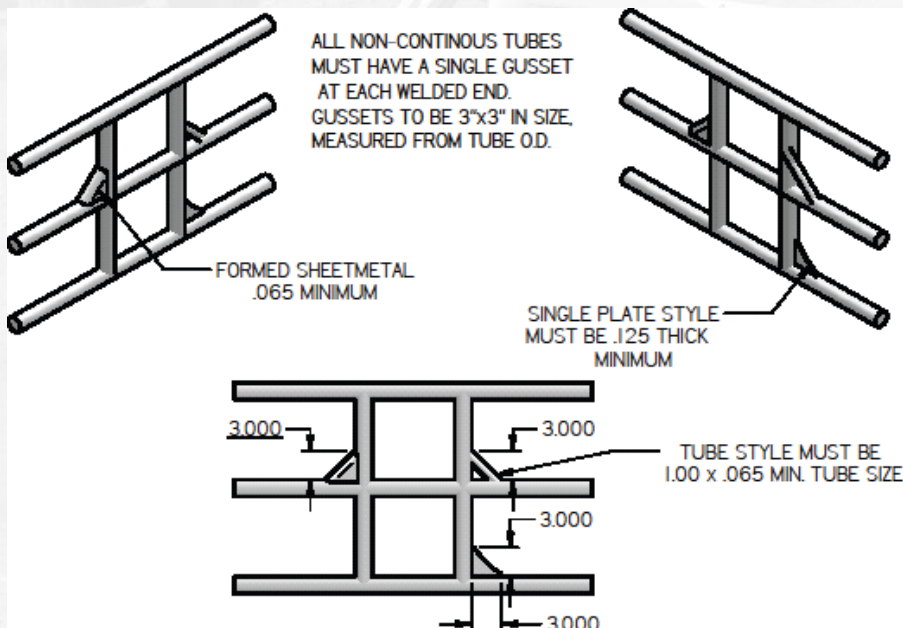

Figure 12 GUSSETS
- Gussets are required on all intersections in driving compartments within 3 inches of intersection. See diagram on FIG 12.